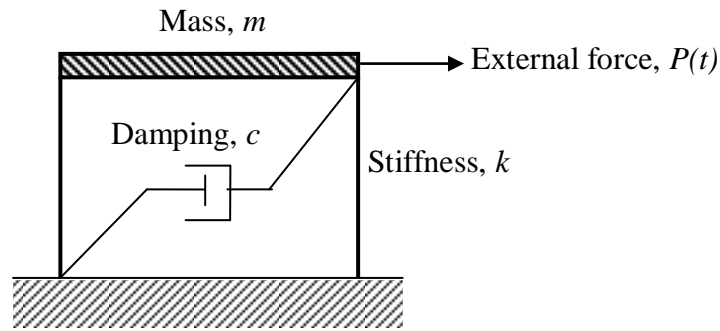

Figure 1
- (b). A single-storey building subjected to an external dynamic force is idealized as a single degree of freedom (SDOF) system as shown in Figure 1.